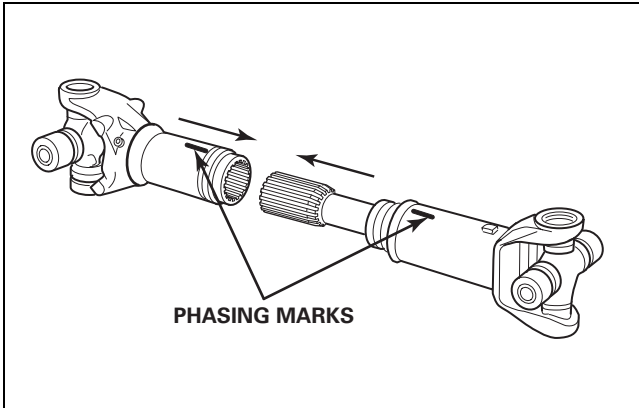

Figure 8.23
- Align the slip yoke and spline shaft sections with the phasing marks you made on these sections during disassembly. Figure 8.23.
- Install the spline shaft into the slip yoke until the splines fully engage. Figure 8.23.